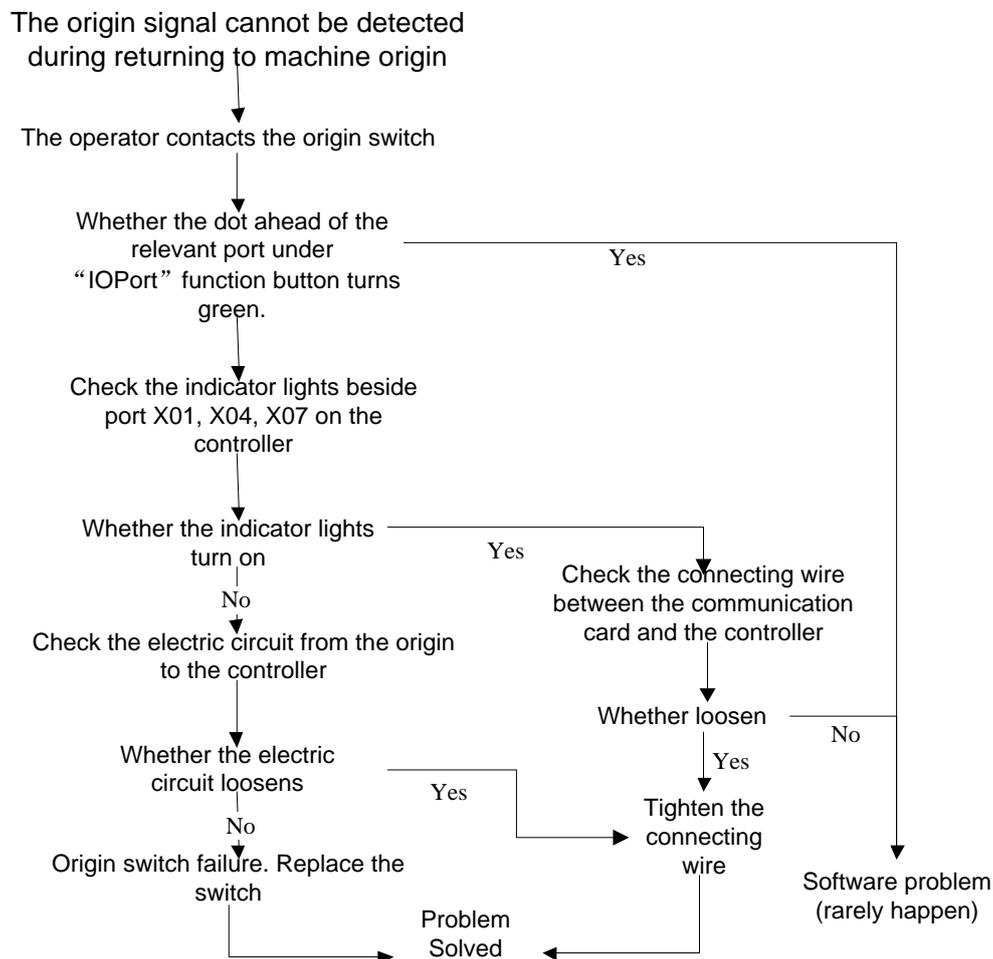

Fig. 5-1 Detection Steps
- ◆ The origin signal cannot be detected during returning to machine origin. It is usually caused by origin switch failure. The detection steps are shown in Fig. 5-1: